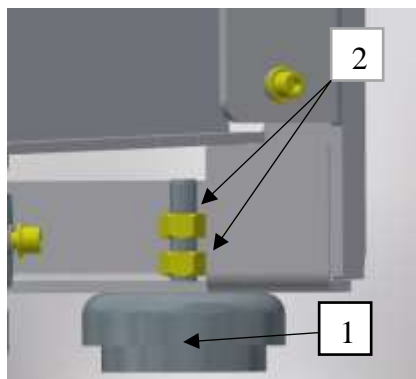

Fig.31: adjustable foot
1. Loosen the lock nut (Fig. 31 /2) with a 17mm spanner.
2. Adjust height by using 17mm spanner on adjusting nut (Fig. 31 /1).
4. When done, secure the lower lock nut (Fig. 31 /2) with a 17mm spanner. Then fasten the upper one.